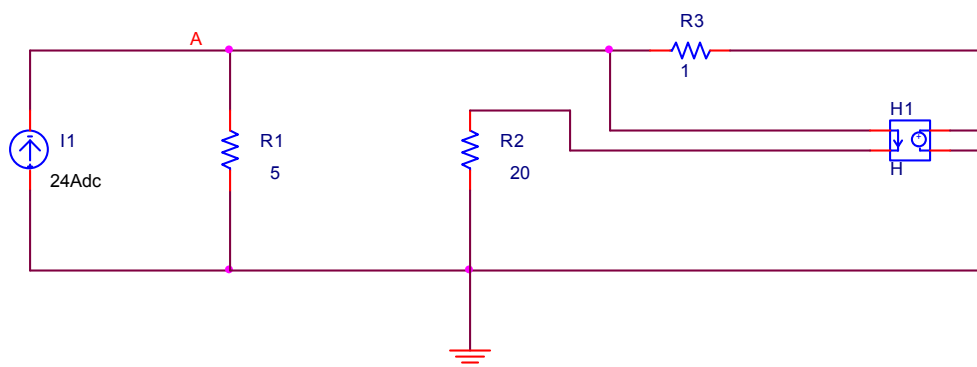

Figure 2.2 – Circuit showing the proper connections needed for simulation.
3) In connecting the part “H”, it may help to use the "zoom" feature in the "view" of the top toolbar. The + and – inside the circle are used to wire the component into the circuit between the 1 ohm resistor and the ground node (+ to + and – to -). The current part (arrow) is used to link the current on which the source depends and is wired such that it is in the direction shown in the Figure 2.2. In this example, the current runs through the resistor R2 to the ground.
4) If there is trouble with the simulation carefully review all connections as given in Figure 2.2.